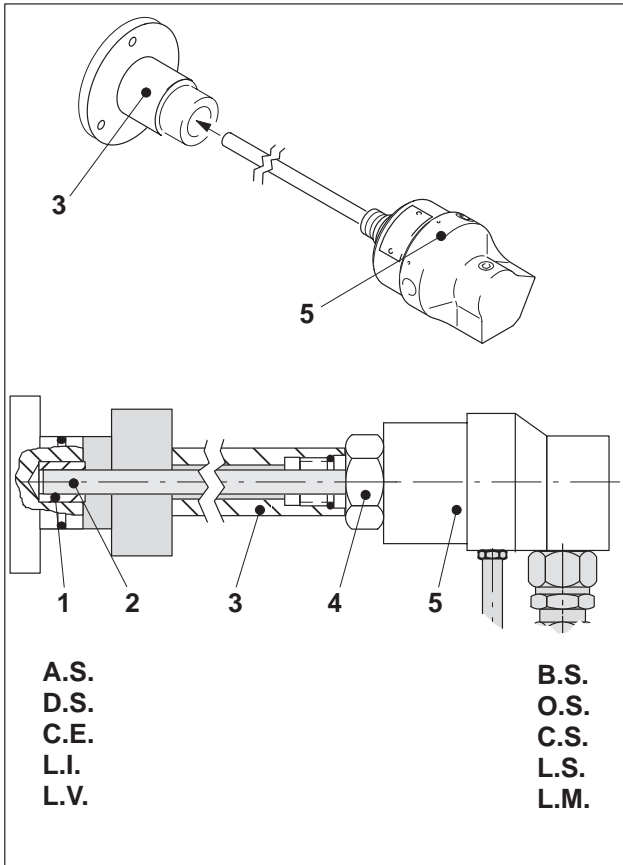

Fig. 4 Mounting the rotary tubes
- 5 Insert the rotary tube with pipe (Fig. 4/5) into the ink fountain roller or the ink distributor (Fig. 4/3).
Make sure that the end of the pipe (Fig. 4/2) on D.S. is located correctly in the friction bearing (Fig. 4/1)4.
- 6 Screw the rotary tubes (Fig. 4/5) to the ink fountain roller or the ink distributor (Fig. 4/3) at the hexagon nut (Fig. 4/4) and tighten these.